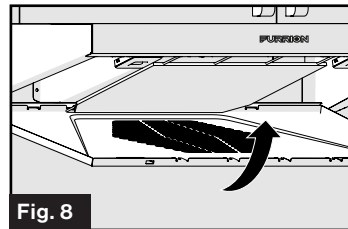
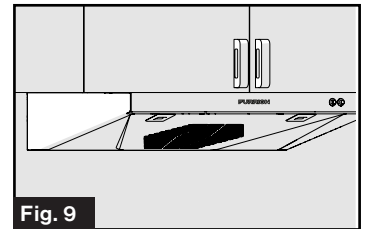

Fig. 8
Fig. 9
8. Replace the grill cover to the range hood and press the release tabs until you hear a click. (Fig. 8) The grill cover is securely attached to the range hood. (Fig. 9)